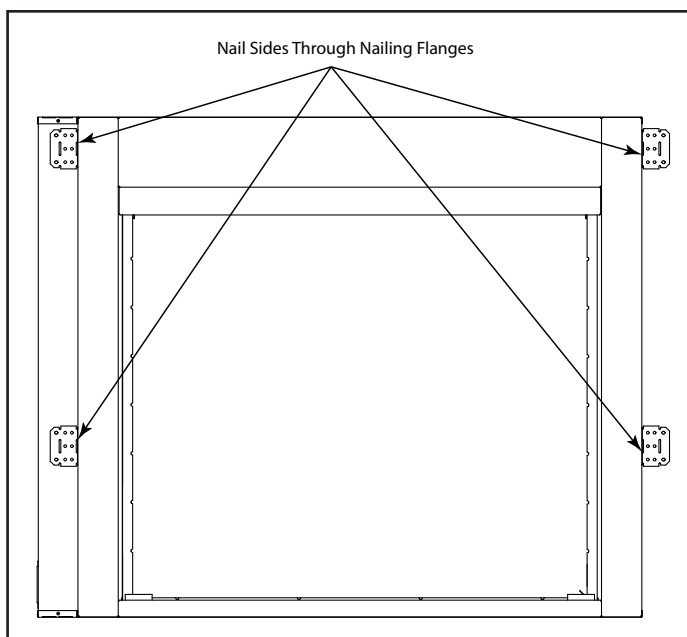

Figure 7.1 Location of Nailing Flanges
4. Anchor firebox to the side framing members using 8d nails or other suitable fasteners. Figure 7.1